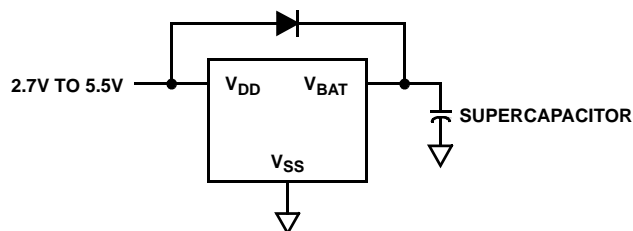

FIGURE 28. SUPERCAPACITOR CHARGING CIRCUIT
- **Mode C** - In this mode, the selection bits indicate a low V_{DD} switchover combined with no communications in battery backup. Operation is actually identical to Mode A with I^2C communications down to $V_{DD} = V_{RESET}$, then no communications (see Figure 28).